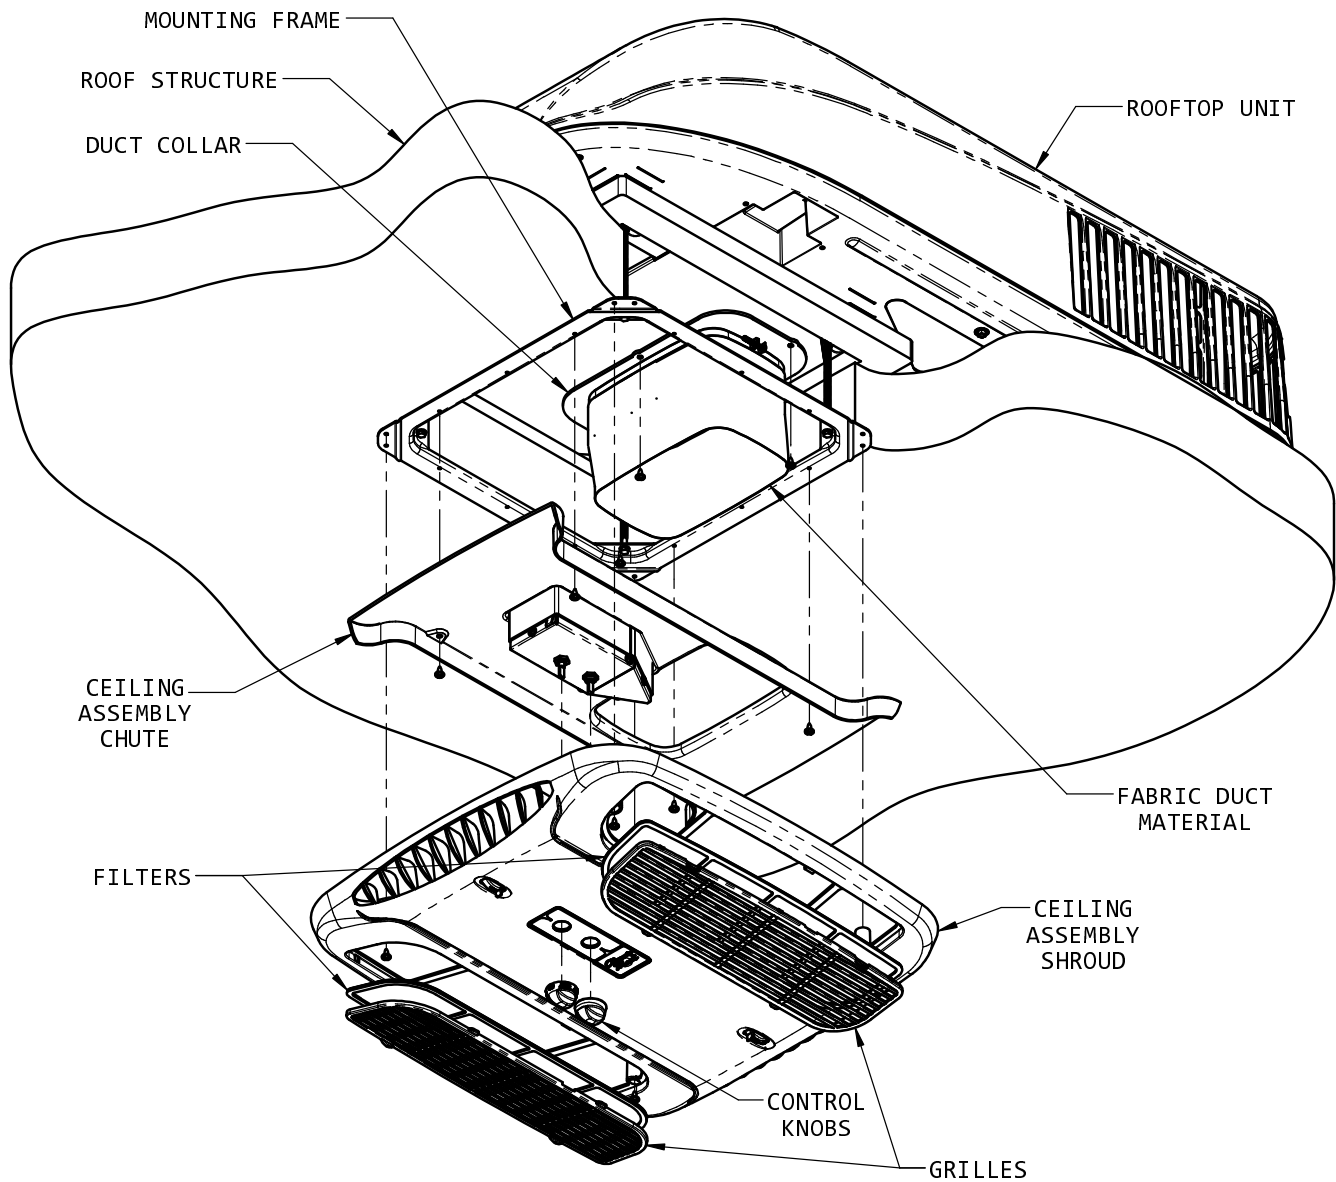

FIGURE 12
- B. Fold and break off the 3 tabs around the inner opening of the duct collar then fasten the duct collar to the air conditioner basepan with 3 provided screws (See Figure 12).
- H. Raise the ceiling assembly chute to the unit mounting frame and secure the chute with 4 provided screws (See Figure 12).
- K. Raise the ceiling shroud and while insuring it meshes with the chute, secure to mounting frame with 4 provided screws (See Figure 12).